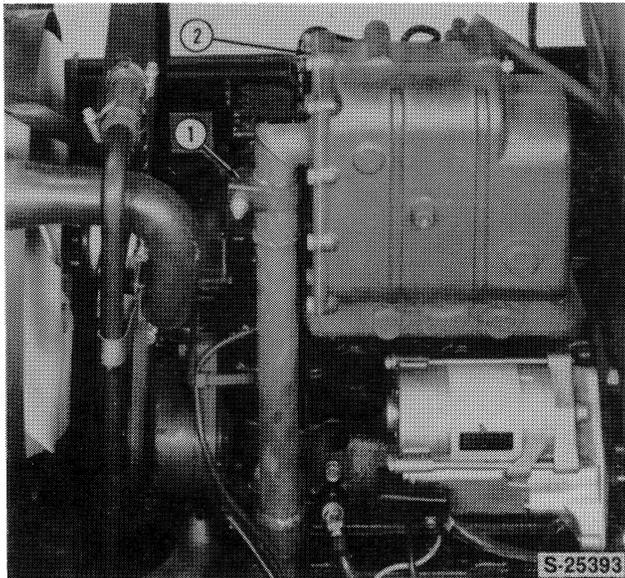

Figure 6
7. Loosen the clamp (1) at the muffler and allow it to slide downward, Figure 6.
8. Remove the exhaust manifold and muffler assembly (2) from the cylinder head, Figure 6.